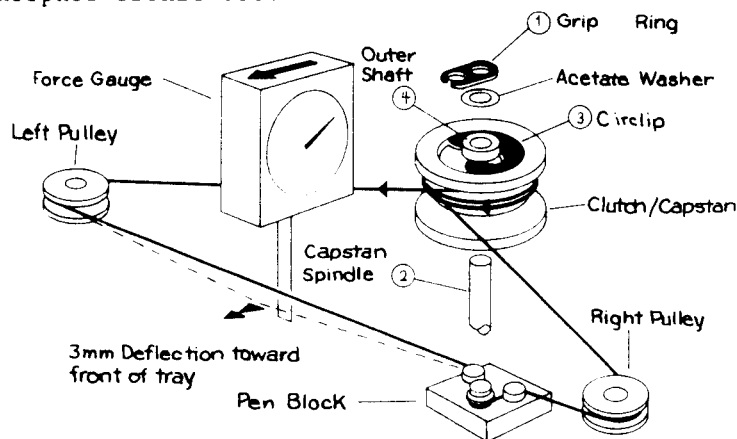

Figure 3-18 Servo drive cord installation
- (1) Slacken the two pen motor securing screws so that the motor can be moved fore and aft.
- (2) Slacken the cord retaining screw on the white molded pen block; remove the cord from the block.
- (3) Remove the grip ring #1, Figure 3-18, from vertical shaft #2; then remove the circlip #3 from the phosphor bronze outer shaft #4.
- (5) Construct a measuring jig by tapping two panel pins 8.25 ins (210 mm) apart into a wooden bench top. Loop the replacement cord round one pin; then knot very firmly the two ends round the other pin to give a continuous loop of 16.5 ins (420 mm) total length. Cut off the surplus cord and seal the knot with quick drying varnish.
- (6) Using a length of fine-gauge wire as a threader, feed the cord loop with the knot to the inside through the hole in the side of the gray plastic capstan; pull the cord tight against the knot.
- (7) Reassemble the capstan components exactly as originally installed: the number and location of the acetate washers is critical in determining the slipping torque of the clutch.
- (8) Hold the pen tray with the scale plate forward. With the hole in the capstan facing the scale plate, wind the left hand half of the cord loop three times clockwise round the capstan, and then round left hand pulley, Figure 3-18. Run the other half of the cord loop round the right hand pulley.
- (9) Position the pen block to the left side of the pen servo tray; then run the cord round and under the clamp bush on the pen block. Lightly tighten the clamp screw.
- (10) Slide the pen block to the right side of the tray to ensure that full traverse of the block is not impeded and the cord winds evenly on the capstan. If necessary adjust the position of the pen block in relation to the cord. Tighten the cord clamp screw.
- (11) Cord tension is checked with a force gauge calibrated from zero to 15 grams, such as Correx (available from Chessell, No. 208 520). Position the force gauge so that blade deflects the cord when the gauge is moved toward the front of the pen tray. The force indication should be between 9 and 11 grams with the cord deflected 3 mm (approximately 0.1 inches). Move the pen motor forward or back as necessary, then tighten the motor securing screws.